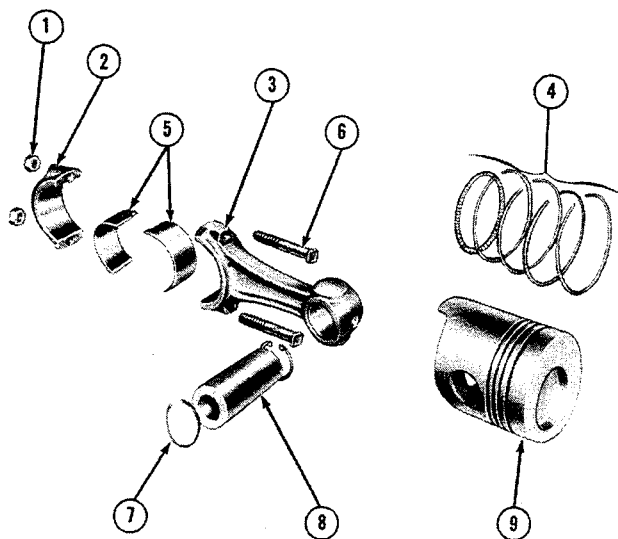

Figure 56
1. Lubricate all parts generously with engine oil during assembly. All parts of the piston and connecting rod assembly are shown in Figure 56. Use the illustration for reference during assembly.